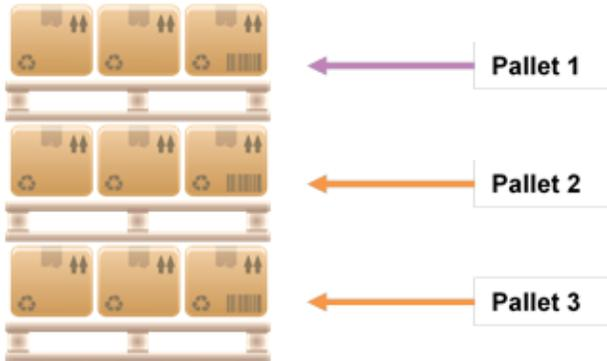

Figure 3- Stacked Pallets
- When pallets are stacked, they should be considered independent logistic units, each pallet should be identified with a unique SSCC. See Figure 3